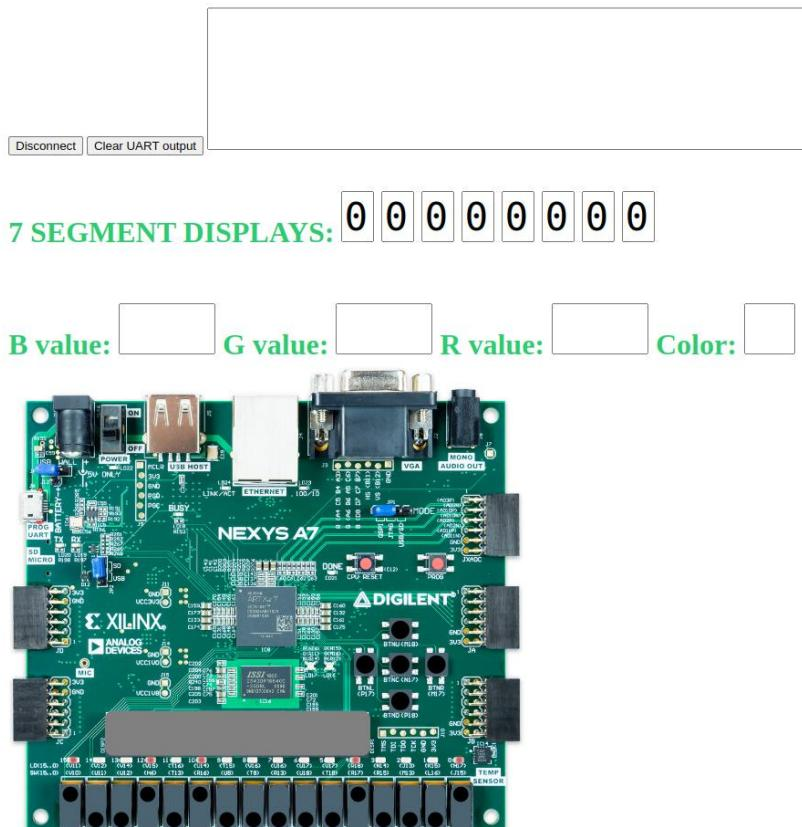

Figure 76. RVfpgaEL2-ViDBo executing the LedsSwitches program
6. Finally, open a browser and connect to <http://localhost:8000/nexys-a7.html>. Click on Connect to the board and test the program. In the executed program, when you click on any of the 16 switches, its state will invert as well as the state of the corresponding LED (see Figure 76). As we will see later, we can execute any other program in the course.